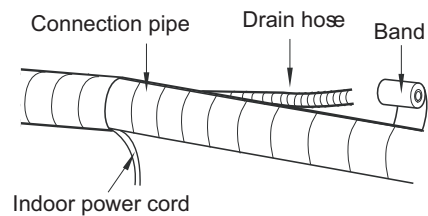

Fig. 15
- (2) Reserve a certain length of drain hose and power cord for installation when binding them. When binding to a certain degree, separate the indoor power and then separate the drain hose. (As show in Fig. 15)
- (3) Bind them evenly.
- (4) The liquid pipe and gas pipe should be bound separately at the end.